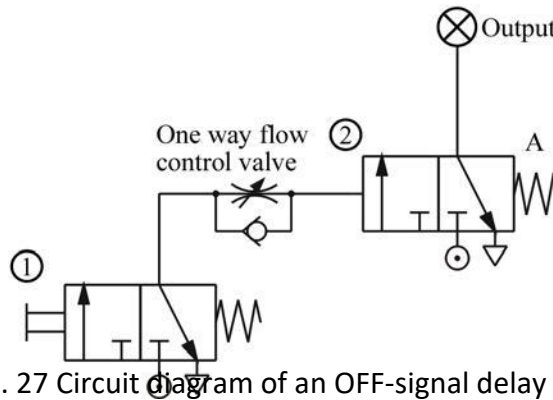

Fig. 27 Circuit diagram of an OFF-signal delay circuit
Fig. 27 shows the circuit diagram of an OFF-signal delay circuit, which delays the output of the next control valve. This circuit is similar to an ON-signal delay circuit. The only difference is that the one way flow control valve is connected in the opposite direction. Therefore, when control valve ① is operated, the outlet of control valve ② (A) will continue to output signals. However, when control valve ② is restored to its original position, the release of air is slowed down by the one way flow control valve, resulting in a persistent OFF-signal.